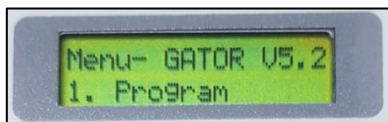

Figure 5: Screen
- Press the “Menu” key on the keypad. A screen shown in Figure 5 below will appear. The programmer’s software version (E.g. V5.2) is noted in the upper right hand corner of the display.